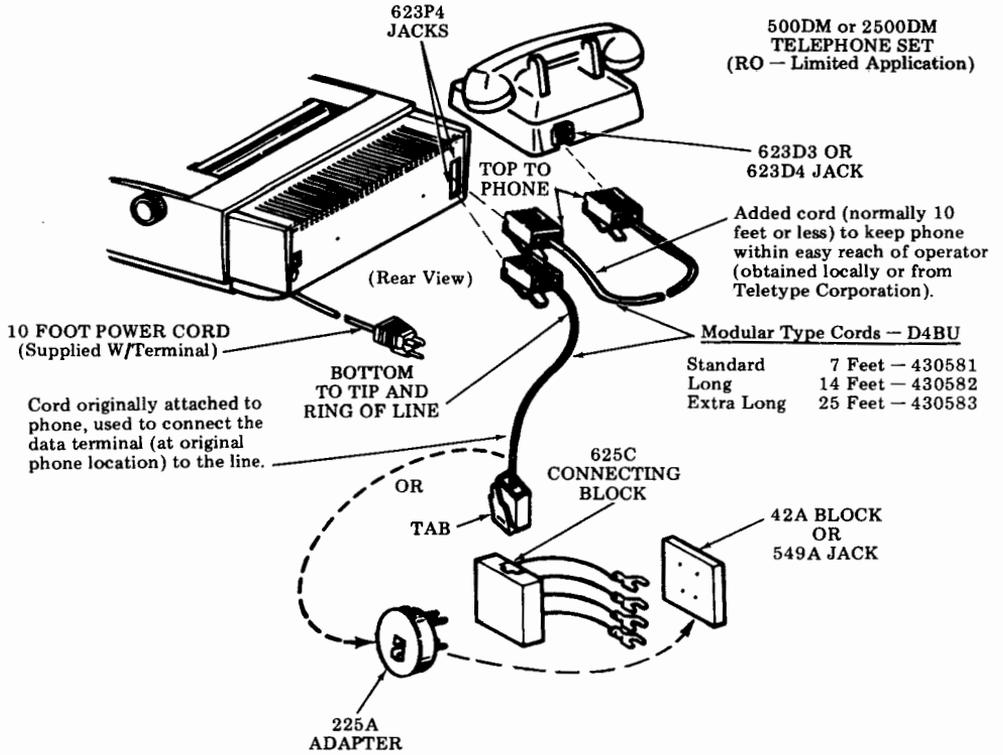

Fig. 4—Telephone Connection
5.07 Unplug the modular plug of the D4BU cord from the modular jack associated with the telephone specified on the service order (compress tab to release) and connect it to the lower connector marked LINE on the rear of the TDU accessible through the opening in the left rear of the bustle cover (Fig. 4). If telephone is not to be placed at original phone location, a different length cord may be needed. Connect the additional modular cord between the upper connector on the TDU marked PHONE and the telephone jack.